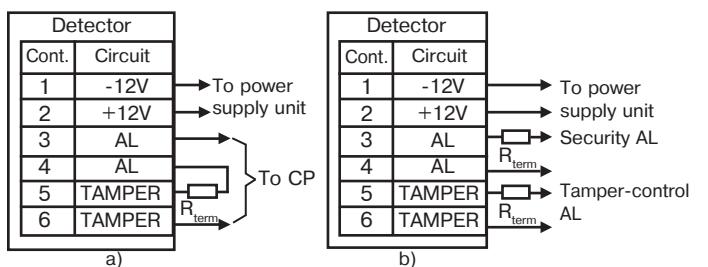

Figure 3
- Drill the holes in the base (See Figure 3) for the Detector wiring and fastening.
- Fulfill connections in accordance with Figure 3 a) for hooking up to one AL or Figure 3 b) with separate AL of tamper control.